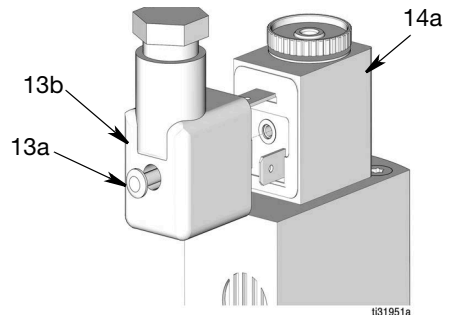

FIG. 10
14. Reconnect the DIN connector (13b) to solenoid connector (14a) (FIG. 10).
15. Tighten screw (13a) on back of mini DIN solenoid connector (13b) (FIG. 10).